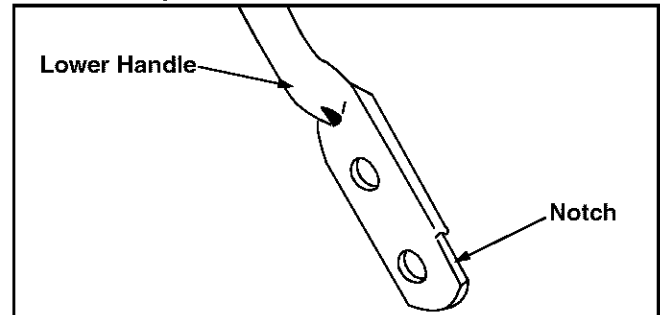

Figure 15
- Turn lower handle around so the notch on the bottom of the lower handle is facing forward. See Figure 15.